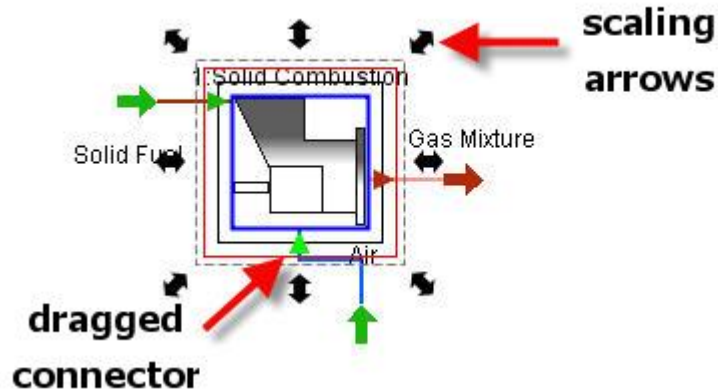

FIG. 10: Change of block dimensions and connector position
3. Click on a selected block to change its sub-mode to *shaping*. This will result in eight bidirectional arrows appearing around the block. By dragging these arrows, one may alter block's dimensions (Fig. 10).
- Block connector position may be altered by dragging the connector inside the block (Fig. 10).